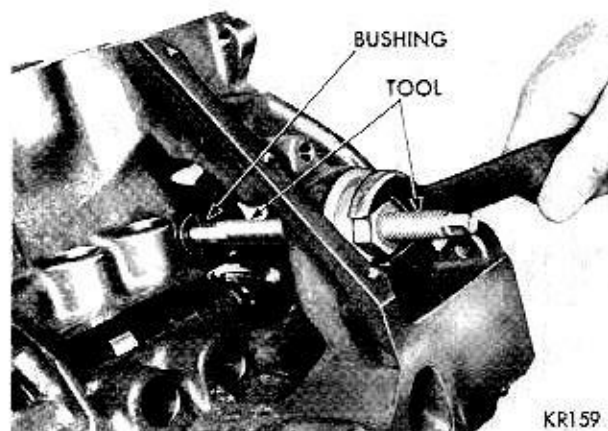

Fig. 26—Removing Distributor Drive Shaft Bushing
(1) Insert Tool C-3052 into the old bushing and thread down until tight fit is obtained (Fig. 26).
(2) Hold remover screw and tighten nut until bushing is removed.